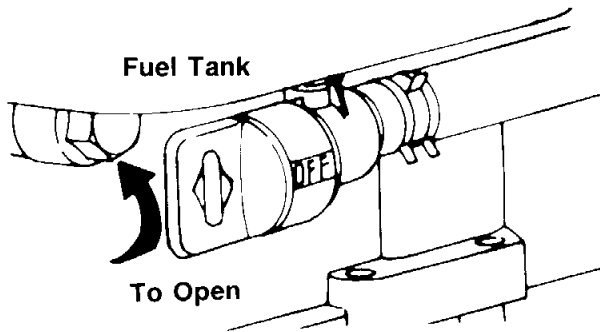

FIGURE 24.—Model 12872 Only
3. **Model 12872 Only:** The fuel shut-off valve is located beneath the fuel tank. The fuel shut-off valve should be in the open position. See figure 24. Open fuel shut-off valve if it is closed.